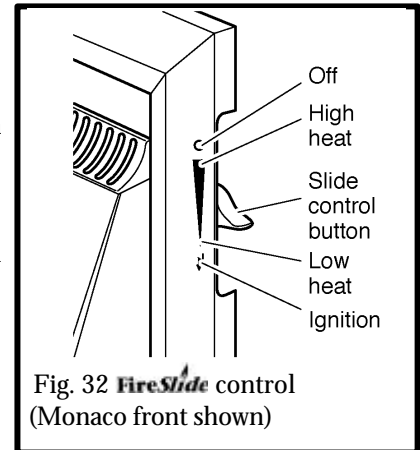

Fig. 32 FireSlide control (Monaco front shown)
The control position markings on the front surround are shown in figure 32.
11.1.5 Gradually slide the button up to increase the burner setting. The burner should be at its maximum setting at the high heat position shown in figure 32. You should feel a check to the button movement at this position.